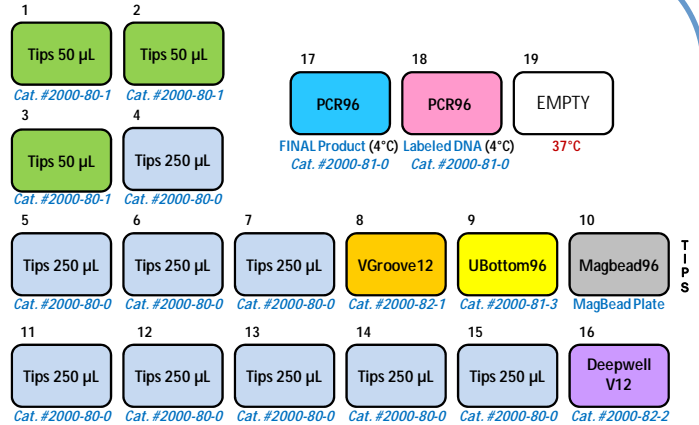

Figure 9. Deck layout for magnetic bead purification of 96 samples.
1. Ensure that all labware is placed on the correct positions on the ArrayPrep® instrument (see Figure 9).